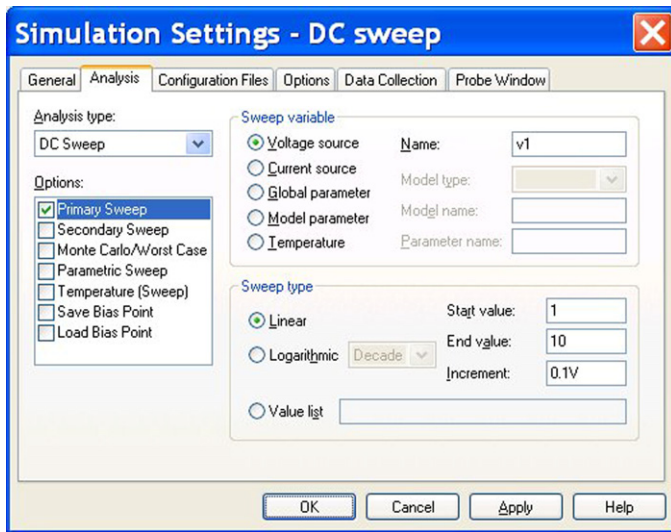

FIGURE 16.16
2. Create a PSpice > **New Simulation Profile** and select the **Analysis** type to DC sweep. Create a simulation profile for a DC sweep for V1 from 1 V to 10 V in steps of 0.1 V (Figure 16.16) to confirm the 4.7 V zener diode breakdown voltage. It does not matter if V1 has a voltage of 0 V as shown in the schematic, as a DC sweep is being performed.